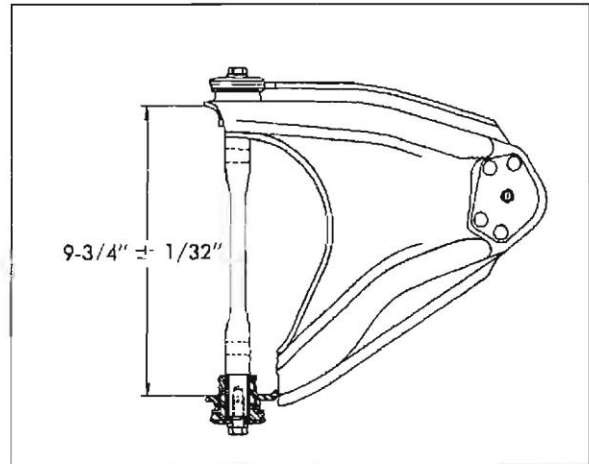
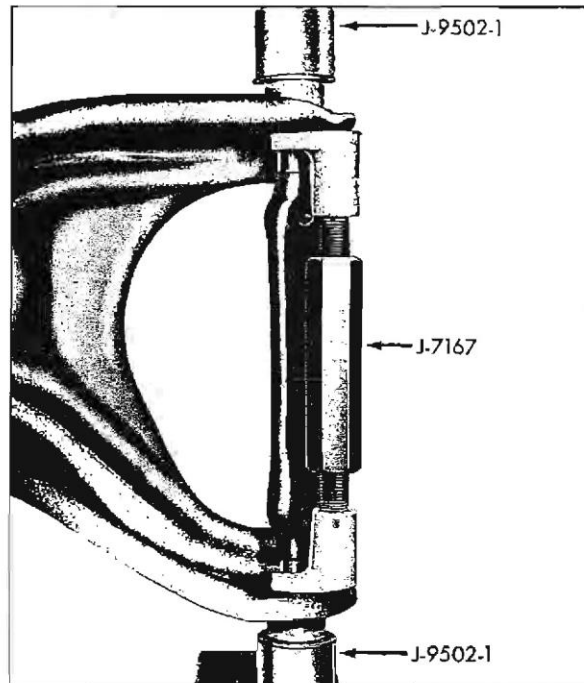

Fig. 3-16 Correct Installation of Upper Control Arm Shaft
Fig. 3-17 Install Front Upper Control Arm Bushings
a. Place tool J-7167 in position (Fig. 3-17) and expand until distance between outer faces of arm is 9-3/4" (Fig. 3-16).
- d. Press bushings in control arm with arbor, using two J-9502-1 Installers as shown in Fig. 3-17.
- f. Line up pivot shaft by rotating shaft in bushing so that frame mounting holes in shaft line up as shown in Fig. 3-16.